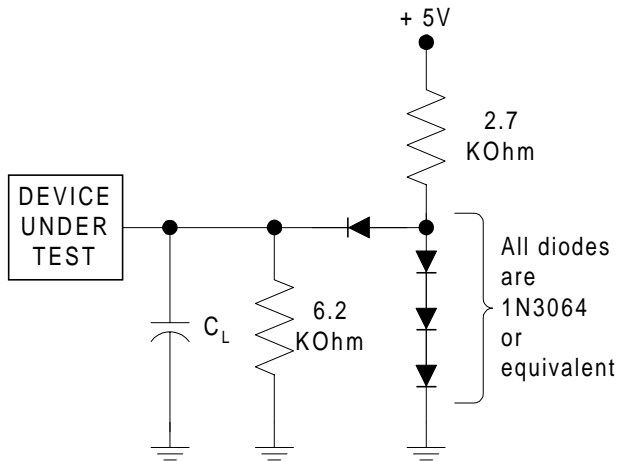

Figure 11. Test Setup
2. See Figure 11 and Table 7 for test conditions.
- See Figure 11 and Table 7 for test conditions.